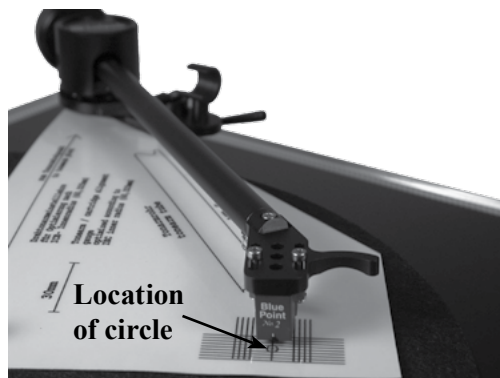
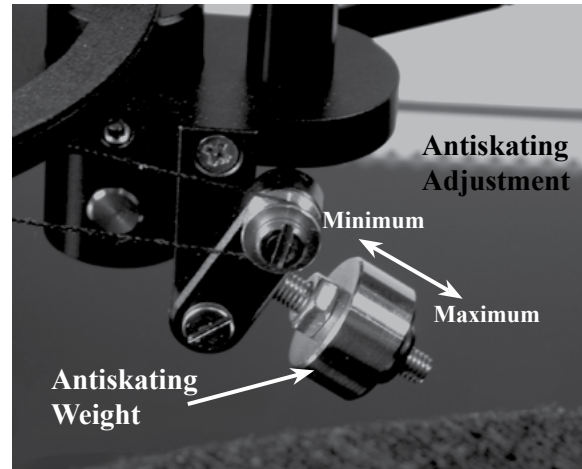

Figure 22
Figure 32
3. With the Anti-Skate Adjustment set to minimum (refer to figure 32), carefully place the Tone Arm onto the Alignment Gauge with the diamond tip of the stylus on the center of the small circle located between the parallel lines. Refer to figures 22 and 23.
figure 32). Adjust the position of the Tone Arm Counterweight to establish a tracking force pressure in the middle of the recommend range from the Cartridge manufacturer as a starting place. Refer to figures 28 thru 31.
The MT2 has adjustable Anti-Skating to equalize the pressure on both sides of the record groove wall by rotating the Anti-Skating Weight Up and Down the threaded shaft, refer to figure 32.